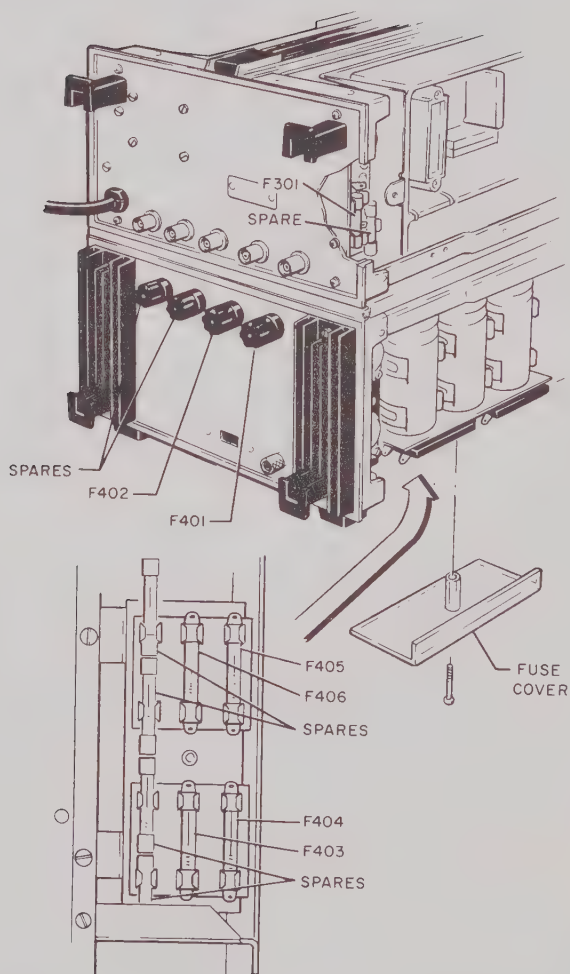

Figure 3-3. Fuse Location Diagram
c. **EMERGENCY MAINTENANCE.**- Emergency maintenance is limited to replacing power supply and high voltage supply fuses. Figure 3-3 locates and identifies the fuses used in the oscilloscope, and also locates spare fuses stored in the oscilloscope. The spare fuses are located in clips adjacent to the fuse holder and a new fuse should be installed in the spare fuse clip as soon as possible after use. To gain access to the internal fuses, release the 3 snap-fasteners on the left-bottom panel and the 3, 1/4-turn fasteners on the oscilloscope left-side panel, and raise the panel.